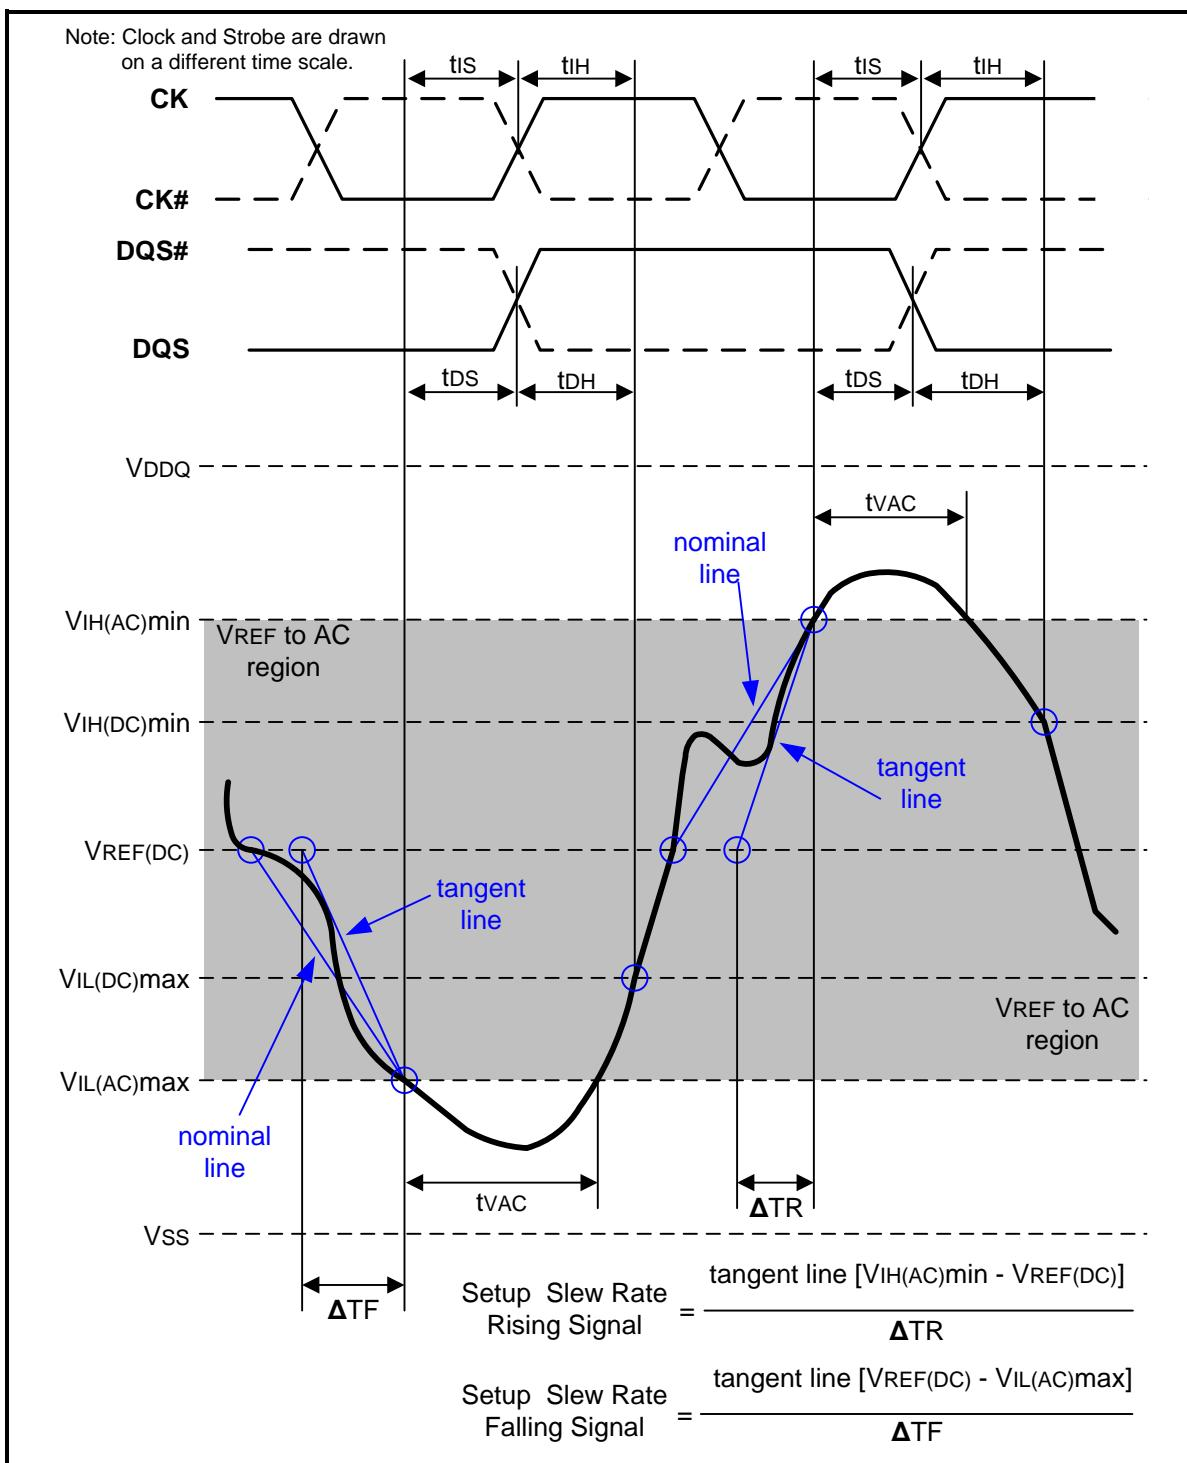

Figure 109 – Illustration of tangent line for setup time tDS (for DQ with respect to strobe) and tIS (for ADD/CMD with respect to clock)
Setup (tIS) nominal slew rate for a rising signal is defined as the slew rate between the last crossing of VREF(DC) and the first crossing of VIH(AC)min. Setup (tIS) nominal slew rate for a falling signal is defined as the slew rate between the last crossing of VREF(DC) and the first crossing of VIL(AC)max. If the actual signal is always earlier than the nominal slew rate line between shaded 'VREF(DC) to AC region', use nominal slew rate for derating value (see Figure 107). If the actual signal is later than the nominal slew rate line anywhere between shaded 'VREF(DC) to AC region', the slew rate of a tangent line to the actual signal from the AC level to VREF(DC) level is used for derating value (see Figure 109).
Setup (tDS) nominal slew rate for a rising signal is defined as the slew rate between the last crossing of VREF(DC) and the first crossing of VIH(AC)min. Setup (tDS) nominal slew rate for a falling signal is defined as the slew rate between the last crossing of VREF(DC) and the first crossing of VIL(AC)max (see Figure 107). If the actual signal is always earlier than the nominal slew rate line between shaded 'VREF(DC) to AC region', use nominal slew rate for derating value. If the actual signal is later than the nominal slew rate line anywhere between shaded 'VREF(DC) to AC region', the slew rate of a tangent line to the actual signal from the AC level to VREF(DC) level is used for derating value (see Figure 109).